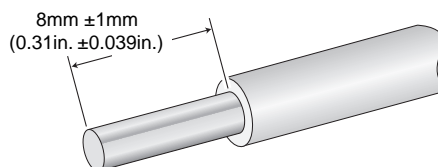

Figure 21. Stripped Wire
- With a 14-gauge wire-stripping tool, strip the three wires in the tray cable coming from the DC input power source to 8 millimeters \pm 1 millimeters (0.31 inches \pm 0.039 inches), as shown in Figure 21.